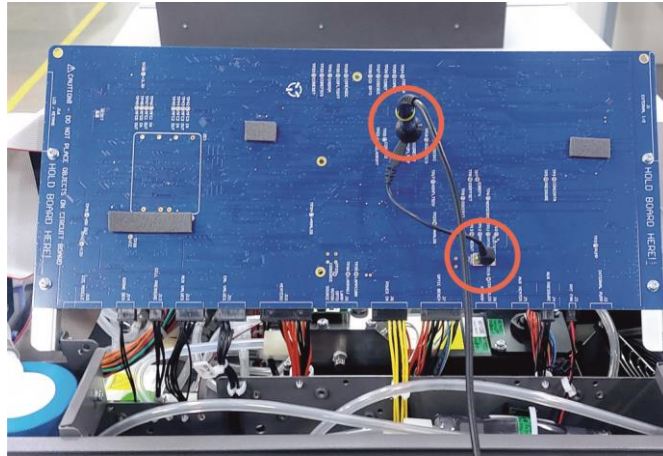

Figure 146 – Connect Oscilloscope
2. Refer to Figure 146. Connect an oscilloscope to TP19 (SO2REFX2) and TP1 (AGND) on top of the main controller PCA.